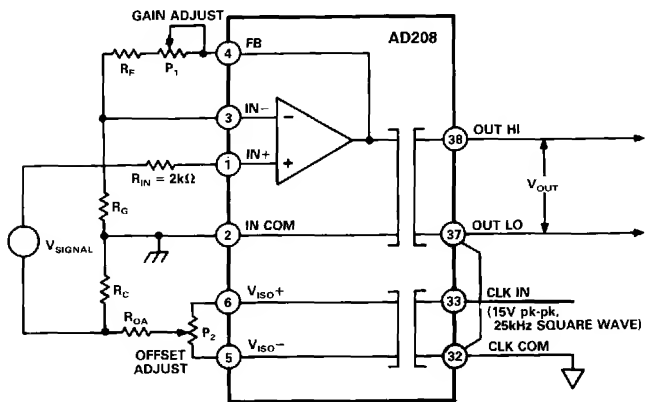

Figure 31. Input Adjustment Circuit for the Noninverting Mode of Operation
**Offset Adjustment.** Figure 31 shows the suggested input adjustment connections when the isolator's input amplifier is configured for the noninverting mode of operation. The offset adjustment circuit injects a small voltage in series with the low side of the signal source. The adjustment potentiometer  $P_2$  is responsible for nulling out the offset voltage. A 100 k $\Omega$   $P_2$ , 50 k $\Omega$   $R_{OA}$  and a 100  $\Omega$   $R_C$  should provide an offset adjustment range (Referred to Input) of about  $\pm 15$  mV. Since the offset is zeroed out ahead of the gain, the values given above for  $P_2$ ,  $R_{OA}$  and  $R_C$  should work for any gain on the isolator.
- To minimize CMR degradation it is recommended that the resistor  $R_C$  (shown in Figure 31) be below a few hundred ohms.
- The offset adjustment circuit of Figure 31 will not work if the signal source has another current path to input common, or if current flows in the signal source LO lead. If this is the case, use the output adjustment procedure.
**Gain Adjustment.** Figure 31 also shows the suggested gain adjustment circuit. Note that the gain adjustment potentiometer  $P_1$  is incorporated into the gain-setting resistor network at the isolator's input.